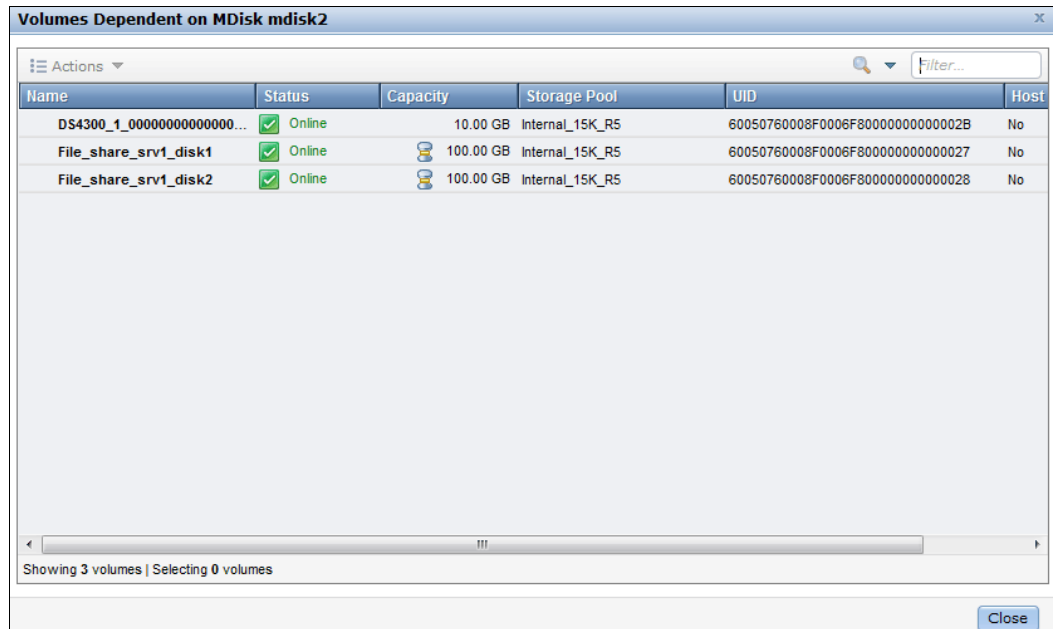

Figure 8-55 Show dependent volumes
- ▶ **Show Dependent Volumes:** The volumes dependent on a particular MDisk can be displayed by selecting the MDisk and clicking **Show Dependent Volumes** from the **Actions** drop-down list. The volumes are listed with general information (Figure 8-55).